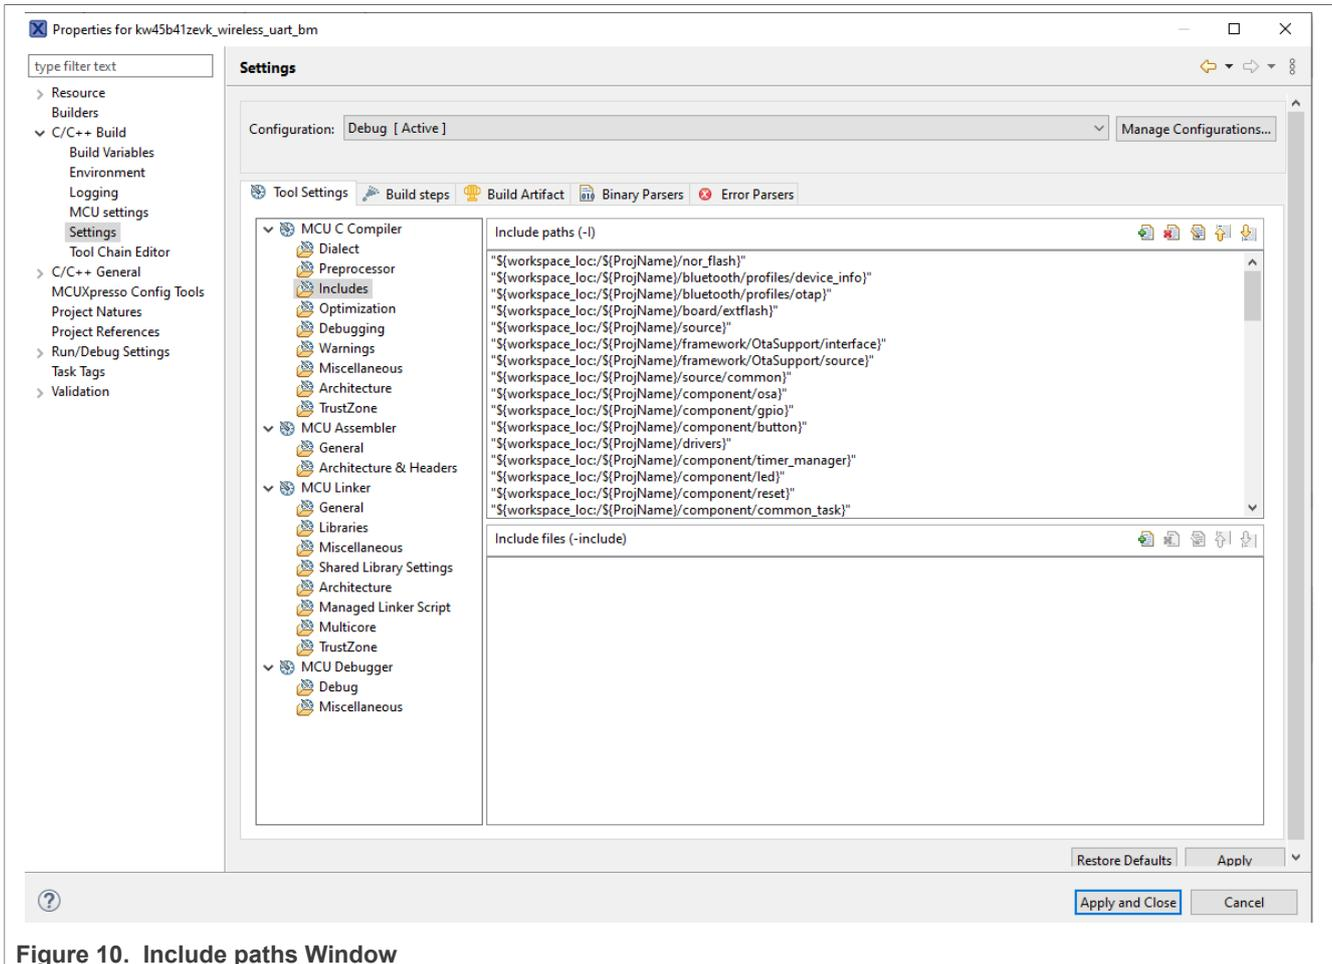

Figure 10. Include paths Window
6. Navigate to **Project -> Properties** in **MCUXpresso IDE**. Go to **C/C++ Build -> Settings -> Tool Settings -> MCU C Compiler -> Includes**. Click the icon next to the **Include paths** textbox, as shown in Figure 10. In the new window that appears, click the **Workspace** button.